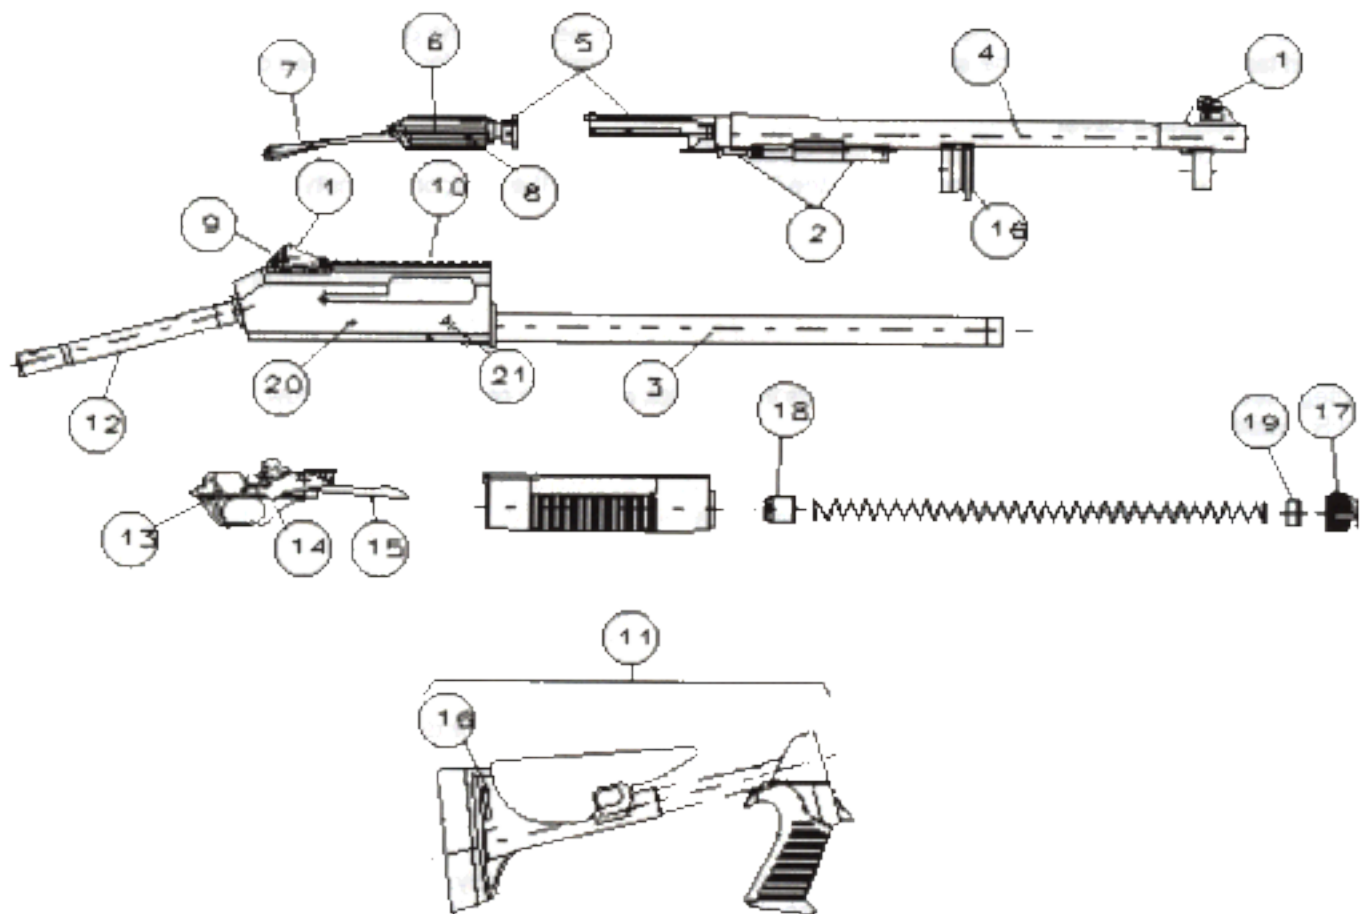

Figure 5. M1014 Combat Shotgun nomenclature
The call-outs in **Figure 5** refer to items in Table 1, "Technical Features."
(Refer to call-outs in Figure 5)
**(Refer to call-outs in Figure 5)**